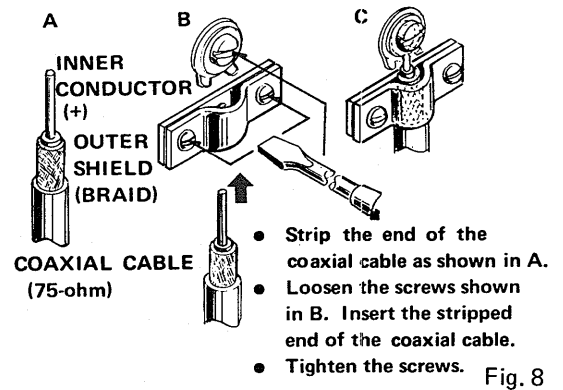

Fig. 8
2. In locations adjacent to heavily traveled streets, around factories, or near high-voltage power transmission lines, use of an FM antenna may not give the desired noise attenuation. In such cases, consult your sales dealer concerning a coaxial cable feeder (75-Ω) for the FM antenna. When coaxial cable is used, make connection to the receiver as shown in Fig. 8.